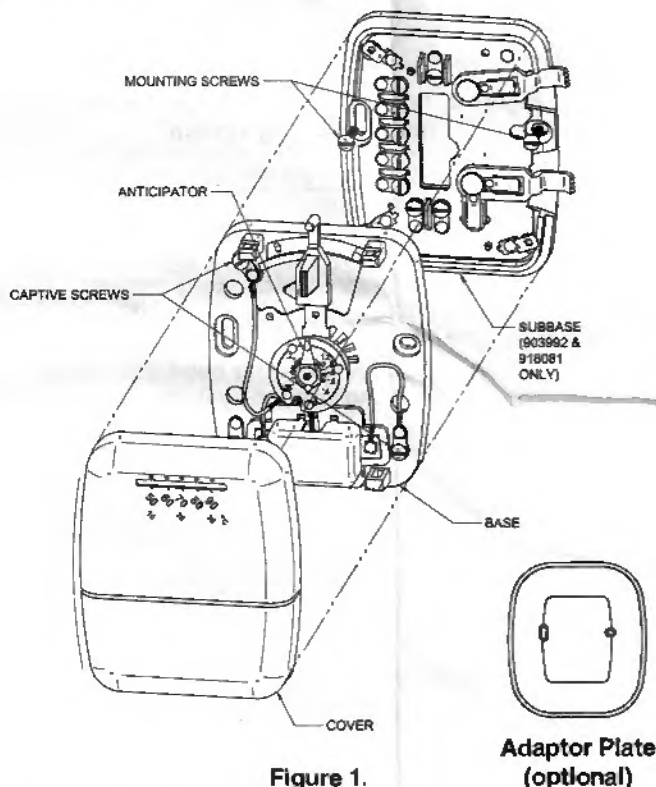

Figure 1.
- Mount base and adaptor plate: Mount base and adaptor plate (optional) to wall using screws provided (see Fig. 1).
- Mount switching subbase/adaptor plate: Use the screws provided to mount the subbase and adaptor plate (optional) to wall (see Fig. 1).
- Mount Thermostat Base: Gently push excess wire back into the wall opening and plug hole with a fire-resistant material, such as fiberglass insulation to prevent drafts from affecting thermostat operation. Mount the thermostat base to the subbase using the three captive screws on the thermostat base. (See Fig. 1) Tighten the screws securely. Remove paper tag from plastic contact cover. Proceed to Step #5.